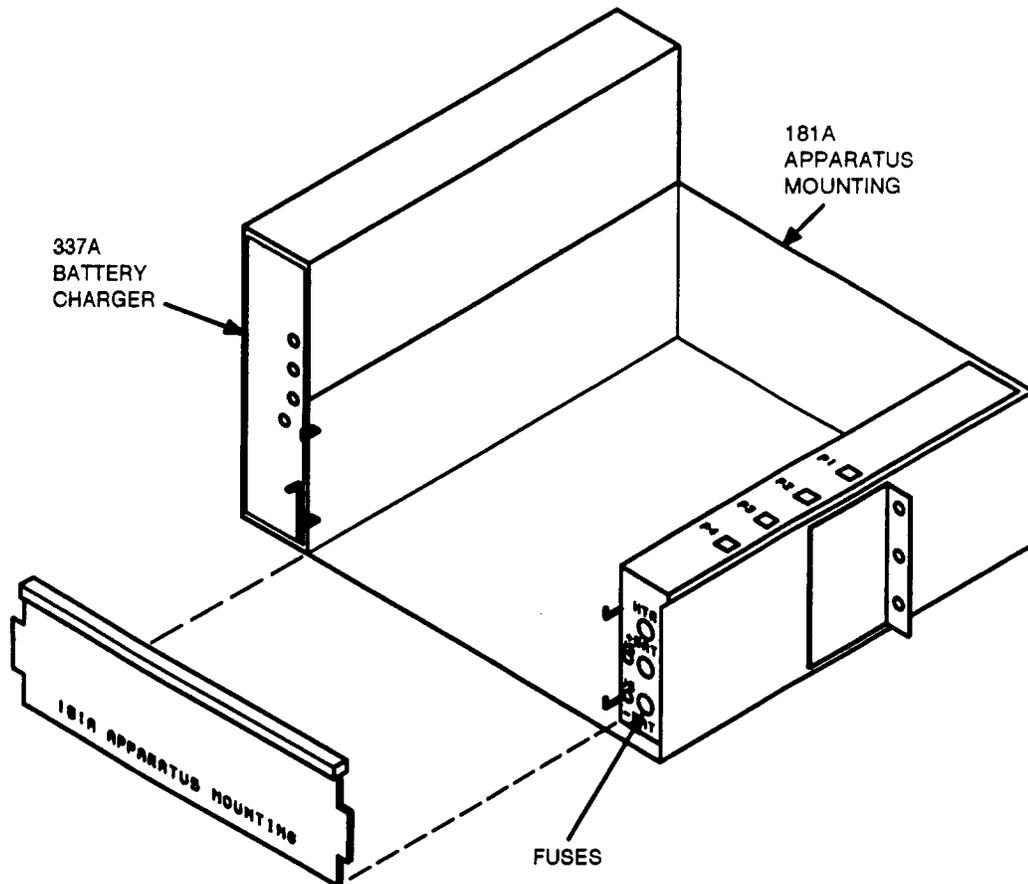

Figure 1 — Battery Shelf
3. On front of battery shelves, remove front covers by lifting covers up and out (Figure 1).